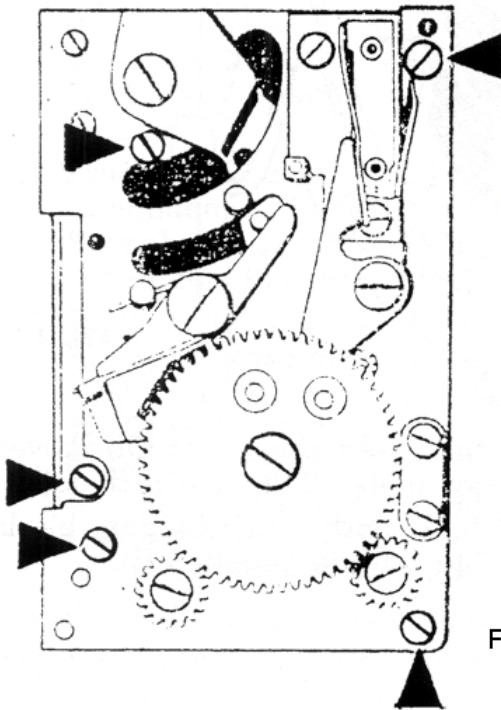

Fig. 2
- c) Undo and remove all the fixing screws for the right shutter-plate (4 screws) and for the shutter cover-plate 370.03 U14 (1screw) (see Fig2) as well as for the right cover-plate 370.03-24 (3 screws) [inside]. Remove the shutter plate, springing the shutter cover-plate backwards.